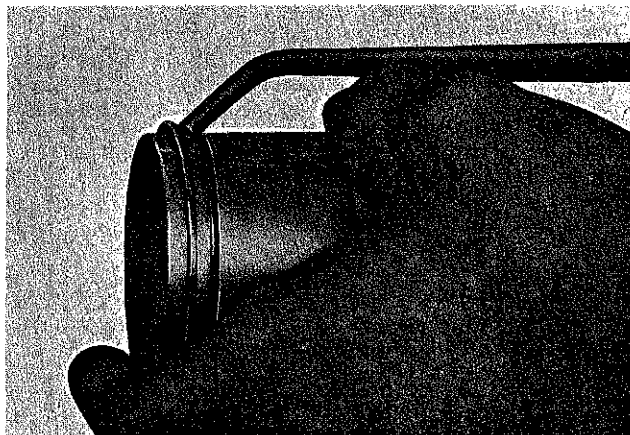

Figure X-32. Oiling the piston and rings before inserting them into the cylinder.
9. Oil the piston, rings, (Figure X-32) and cylinder walls (Figure X-33) with a light coating of engine oil. This will make installation in the cylinder bore easier and provide initial starting lubrication.